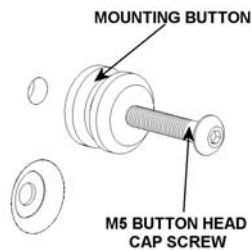

Figure 3
2. Attach mounting buttons to plasma using four M5 x 25 cap screws provided (See Figures 3 & 4).